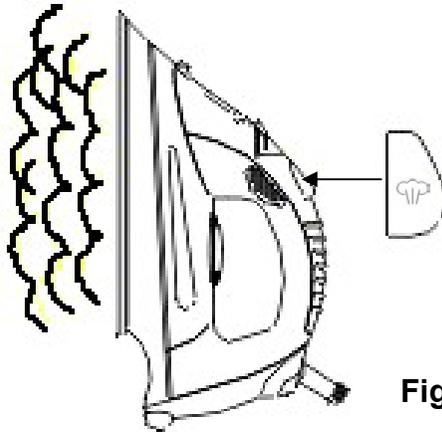

Fig. 7
- Burst-of-Steam (6) can also be applied when holding the iron in a vertical position. (Fig. 7) this is useful when removing creases from hanging clothes, curtains, etc... The Burst-of-Steam (6) feature can only be used while ironing at high temperatures at an interval of 5 seconds.